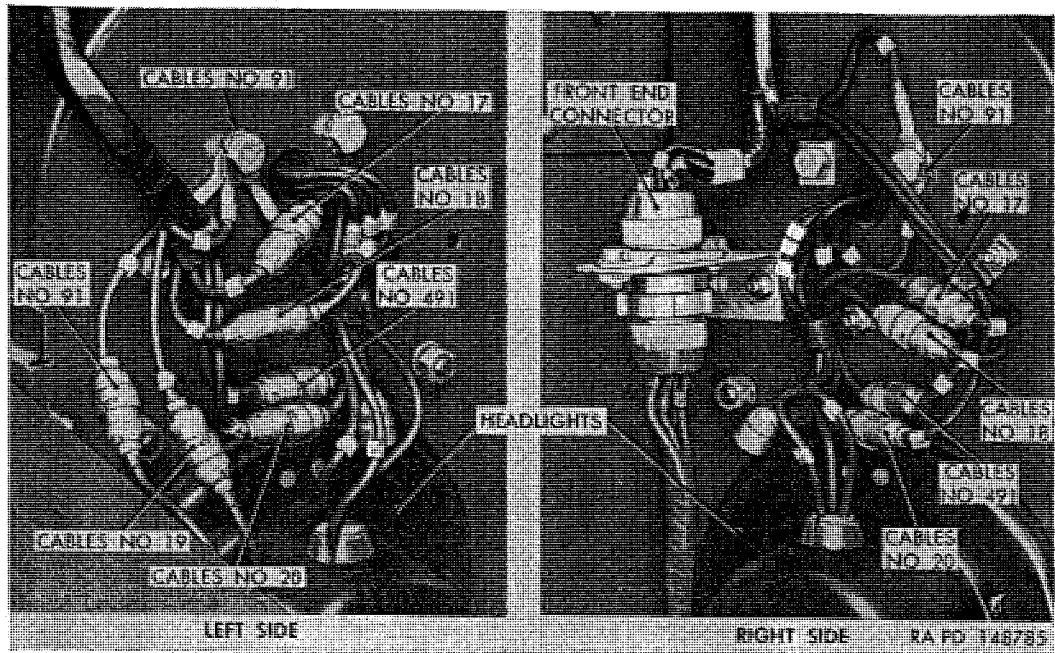
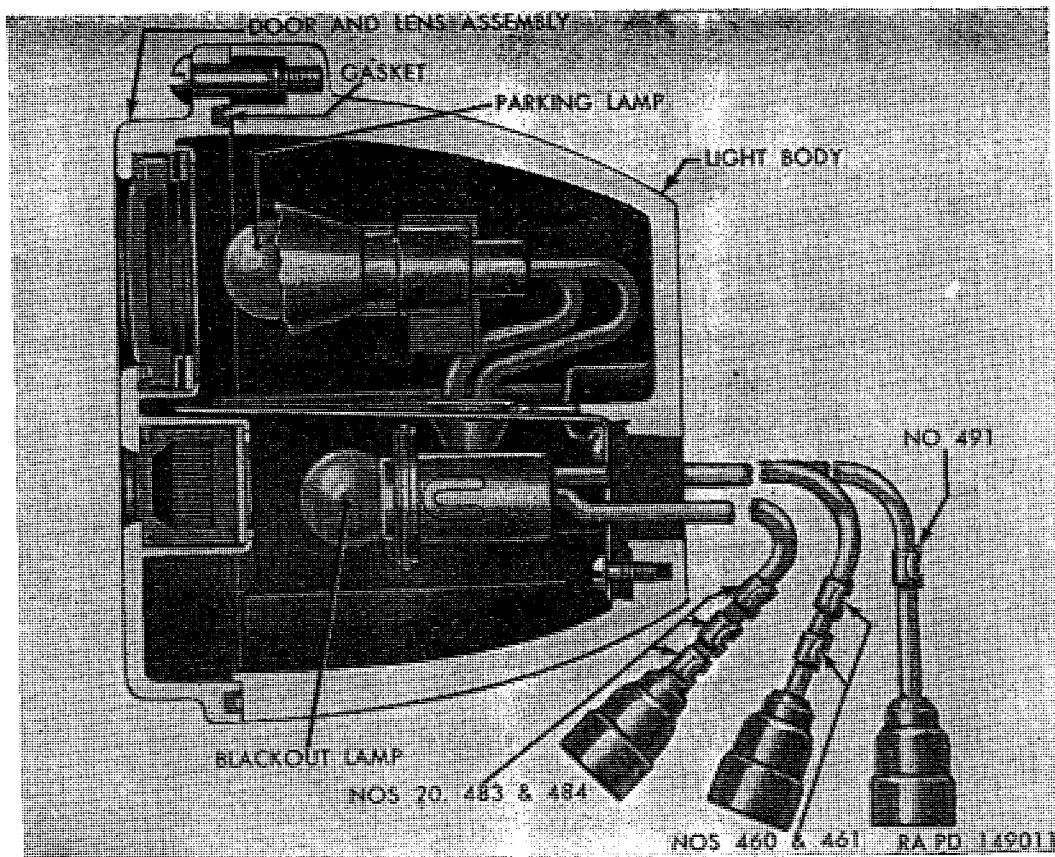

Figure 162. Headlight and marker light wiring connections.
Figure 165. Sectional view of front marker light.
- (a) Disconnect two headlight cables Nos. 17 and 18 at bayonet-type connectors shown in figure 162. Remove front marker light mounting cap screw and lockwasher attaching headlight ground cable No. 91 to radiator side baffle. Disengage ground cable from clip on radiator side baffle..
(a) Disconnect light cables from harness cables at rear of left radiator side baffle (cable Nos. 91 and 19, fig. 162). Remove
(c) Connect light cables to harness cables at rear of radiator side baffle (fig. 162), making sure numbers on cables are matched.
a. *Door and Lamp Replacement* (fig. 165).
(a) Disengage marker light cables from clip on back of radiator side baffle; then disconnect cables from harness at bayonet-type connectors (fig. 162).
(a) Insert light cables through hole in radiator side baffle and position light assembly against baffle. Attach light assembly to baffle with two $\frac{3}{8}$ -16 x $\frac{5}{8}$ cap screws and $\frac{3}{8}$ -inch external-teeth lockwashers, making sure ground cables No. 91 (fig. 162) are secured under one cap screw head.
(b) Connect cable having three tags (Nos. 20, 483, and 484, fig. 165) to harness cable No. 20 (fig. 162). Connect cable hav-